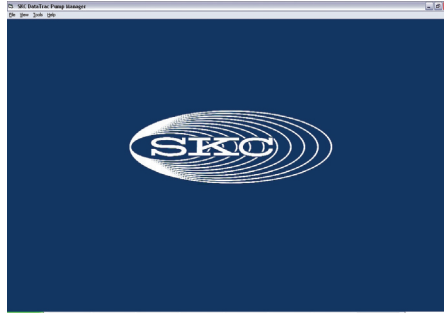

Figure 4. SKC DataTrac Pump Manager Window
7. DataTrac Software will load and display the SKC DataTrac Pump Manager window (Figure 4).
The SKC DataTrac Pump Manager window (*Figure 4*) is the first window that opens in DataTrac. All windows are accessible from this main window.